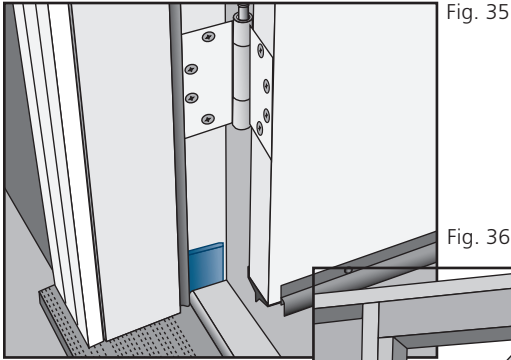

Fig. 35
8. JELD-WEN has included a set of 1¾" by 1¼" compression weatherstrip wedges. Install these at lower rabbeted corners of the jambs to help ensure a weathertight seal (**Fig. 35**).